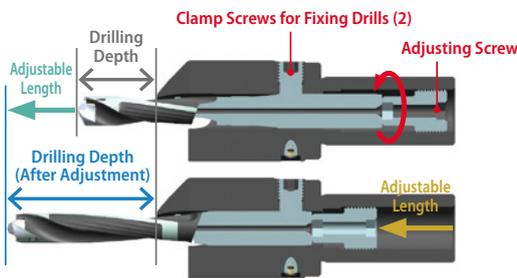

Fig.3 Adjustment of Drilling Depth
**3** Adjust drilling depth by turning adjustment screw with hexagon wrench (Fig.3)